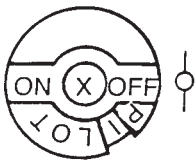

Fig. 6
2. Push the gas control valve knob and turn to OFF (Fig. 6). Wait 5 minutes for unburned gas to vent.
3. Push and turn gas control valve on to the "I" in PILOT (Fig. 6).
5. Depress and turn gas control knob to ON (Fig. 6).